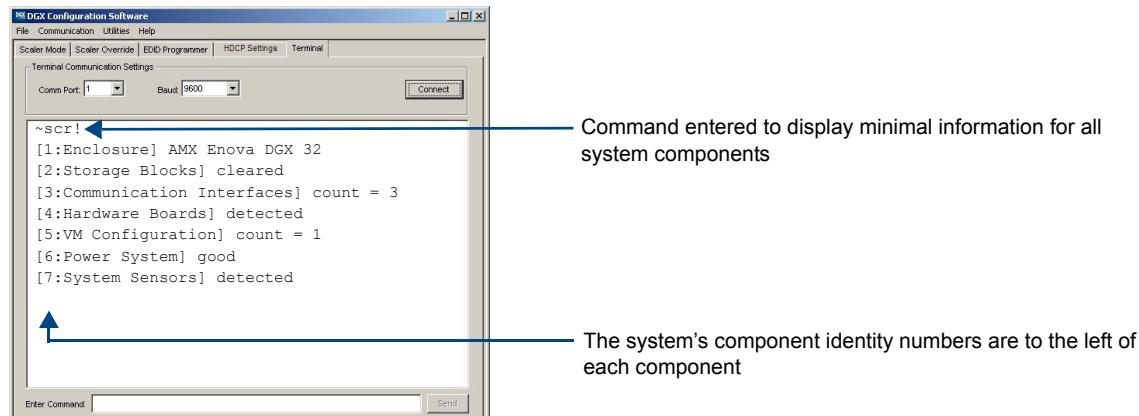

FIG. 117 Example of a default Enova DGX 32 splash screen
The splash screen can be accessed using a terminal emulation program, such as the Terminal view in DGX Configuration Software (see page 187). One of four verbosity** settings is specified, which provides either a list of the seven system components with minimal information (FIG. 117) or a level of detailed information on one of the seven components. Only one verbosity setting and one component setting can be entered in a command. The order in which the verbosity and component settings are entered is interchangeable.
- If both settings are omitted during a query (~scr !), the information displayed will be at the lowest verbosity level for all components (v0i0) (FIG. 117 on page 212).
Note: Either of these commands provides a “menu” of the identity numbers and their corresponding components (FIG. 117 on page 212).